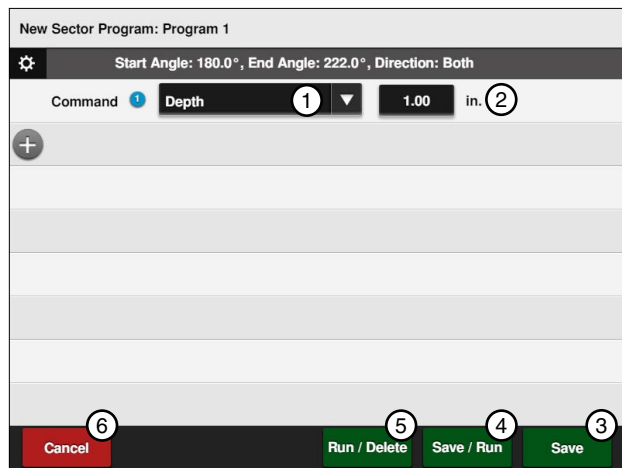

Figure 148-3 1. Depth Command 2. Inches 3. Save 4. Save / Run 5. Run / Delete 6. Cancel
- a) Select the **Choose Command** drop-down menu and choose **Depth**. Refer to Figure 148-3.
12. Finish the program by selecting one of the following. Refer to Figure 148-3.